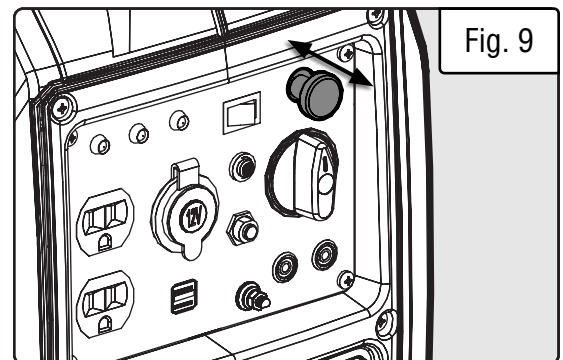

Fig. 9
9. If the engine is cold, pull out the choke lever to CLOSE the choke valve. If the engine is warm, push the choke lever in to OPEN the choke valve (Fig. 9).